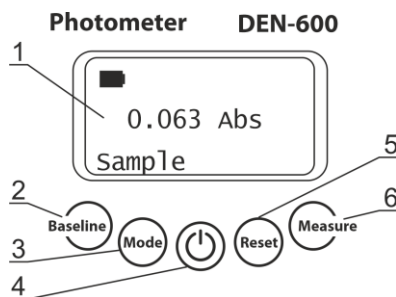
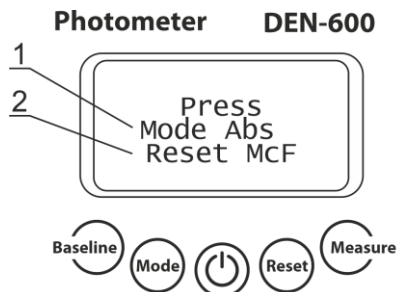

Figure 1. Control panel
Figure 2. Measurement mode selection.
5.2. Connect the external power supply to electric circuit. Switch on the unit using the green **Power** key (fig. 1/4) on the control panel.
5.3. The following indication may be shown on the display (fig. 1/1):
- Two measurement modes for operation are available – McFarland (McF) and Abs (Absorbance) see Figure 2 and 5.4.
5.4. **Measurement mode selection (Figure 2).** Select measurement units by pressing **Reset** key for McF (fig. 1/5) and **Mode** key for Abs (fig. 1/3).
5.5. **Baseline calibration.** Unit requires initial baseline (only in Abs mode), e.g., depending on the reaction vessel or suspension colour. Insert the reaction vessel with or without suspension into the unit and press the **Baseline** key (fig. 1/2).
5.6. **Choosing mode of operation.** Press the **Mode** key (fig. 1/3) to circle through available operation modes, **Sample**, **Save** and **Read**.
5.6.1. **Sample** mode - measurement without saving the results. Place the sample in the unit and press the **Measure** key (fig. 1/6). Display shows the measurement result.
- If the calibration was successful, display shows “OK!” before returning to default screen (figure 1).